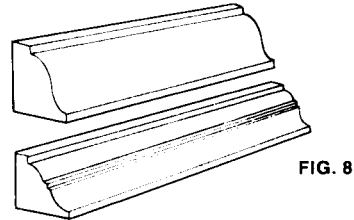

FIG. 8
**Fig. 8** illustrates two types of moulding made with the Router, using the pilot part of the bit to guide tool along the edge of the work. After the moulding is shaped with the Router, a saw is used to cut the moulding from the lumber.